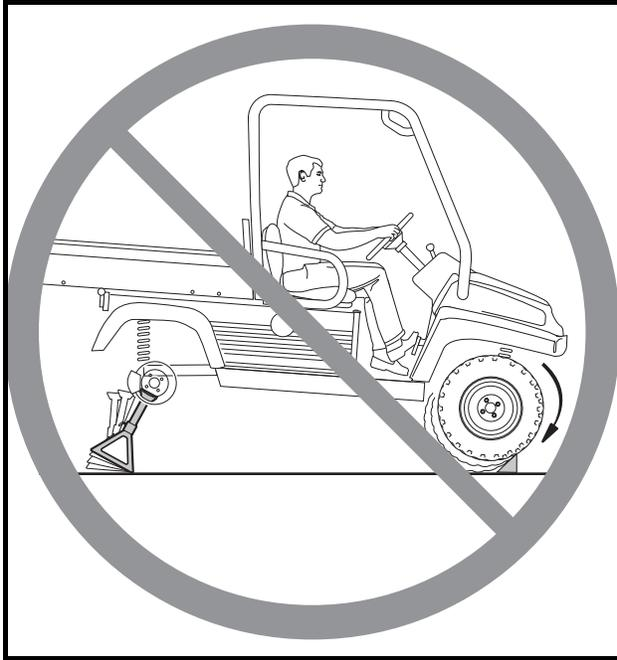

Figure 1-1 All-Wheel Drive Warning
- When servicing the vehicle with part of the vehicle on jack stands, do not operate the engine with the Forward/Reverse handle in either the **FORWARD** or **REVERSE** position. The all-wheel drive system will engage any wheel(s) with traction. See Figure 1-1, Page 1-3.